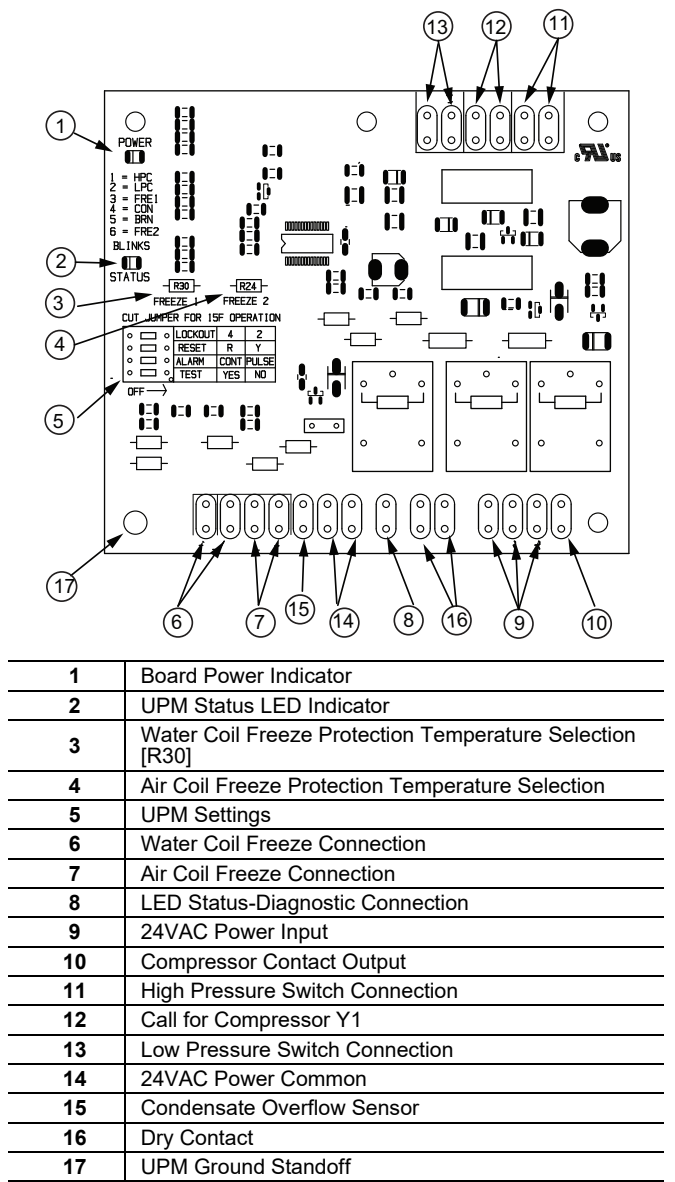

Fig. 43 — Unit Protection Module (UPM)
should be one of the first areas to start with troubleshooting an equipment issue. See Fig. 43.
- UPM board dry contacts are normally open (NO).
- Water-side freeze protection sensor, mounted close to condensing water coil, monitors refrigerant temperature between condensing water coil and thermal expansion valve. If temperature drops below or remains at freeze limit trip for 30 seconds, the controller will shut down the compressor and enter a soft lockout condition. The default freeze limit trip is 26°F, however this can be changed to 15°F by cutting the R30 or Freeze1 resistor located on top of DIP switch SW1. Refer to Fig. 43, Item 3 for resistor location. If unit is employing a fresh water system (no anti-freeze protection), it is extremely important to have the Freeze1 R30 resistor set to 26°F in order to shut down the unit at the appropriate leaving water temperature and protect heat pump from freezing if a freeze sensor is included.